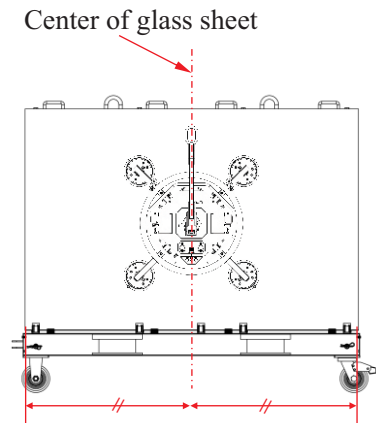

Figure 1.3
- *Ensure that the lifter is at the gravity center of the glass sheet (Figure 1.3)*